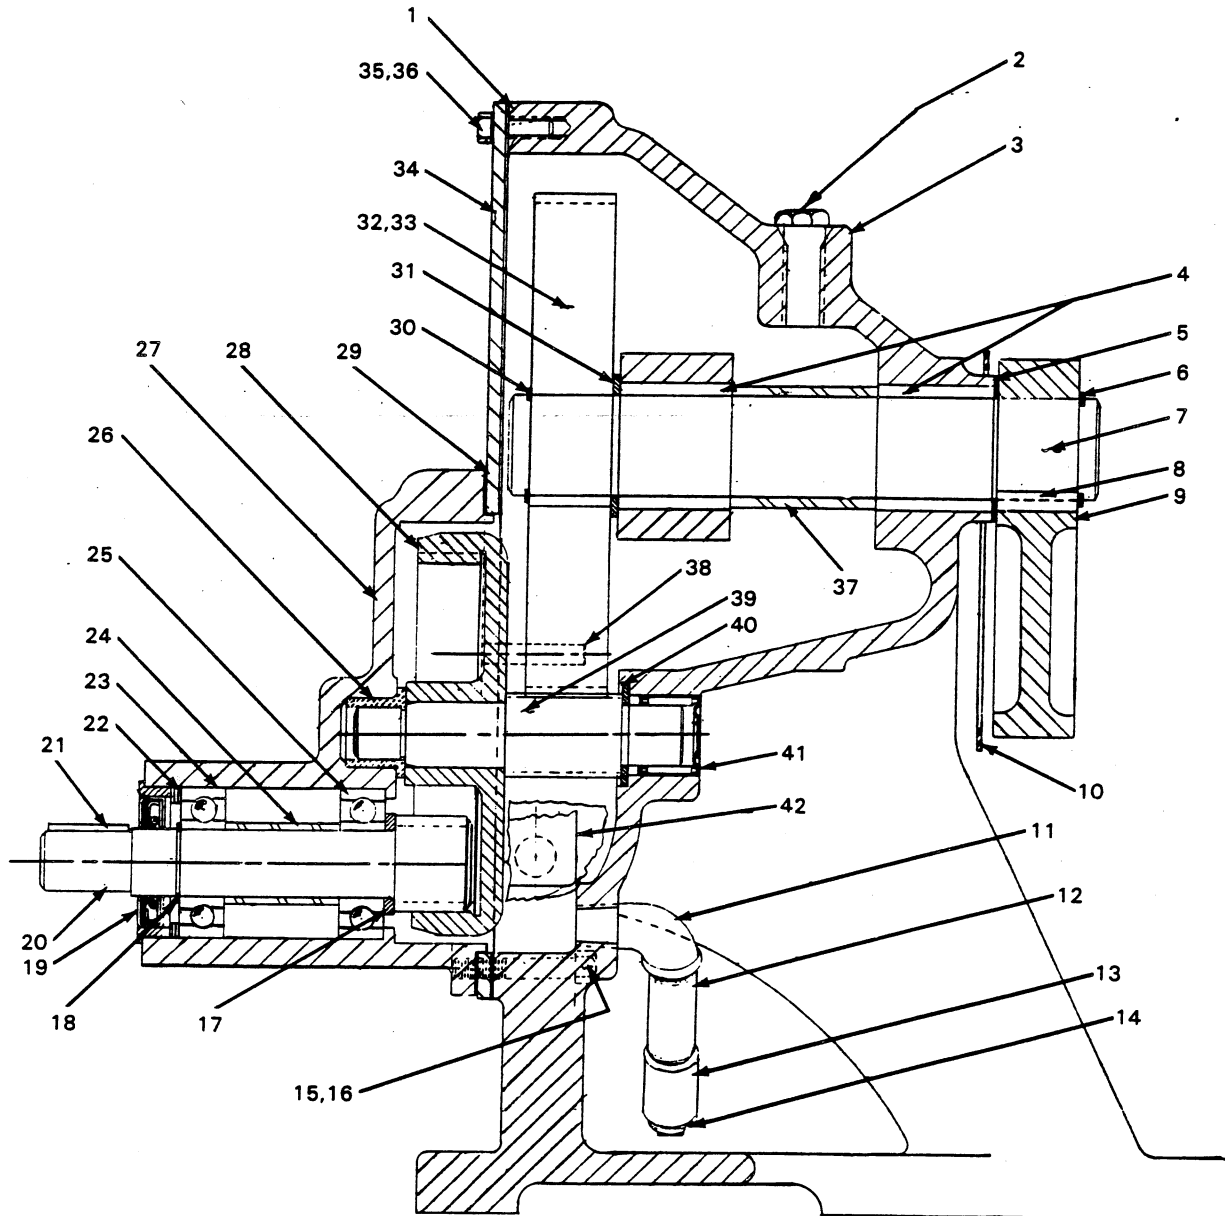

Figure 5. 8981 Gearbox Assembly
Gear Box Disassembly (See figure 5)
Install the drive shaft washers. Inspect the oil seal assembly, and replace as necessary. Install the oil seal assembly with the lip positioned as shown in figure 5.
Refer to figure 5, remove the hex head capscrew (2), lock washer (42), and flat washer (43) at the top of the gear box, and fill the oil cup (42) with a good grade of SAE 20-30 non-detergent motor oil to the midpoint of the oil cup sight gauge. Reinstall the hex head capscrew, lock washer and flat washer.